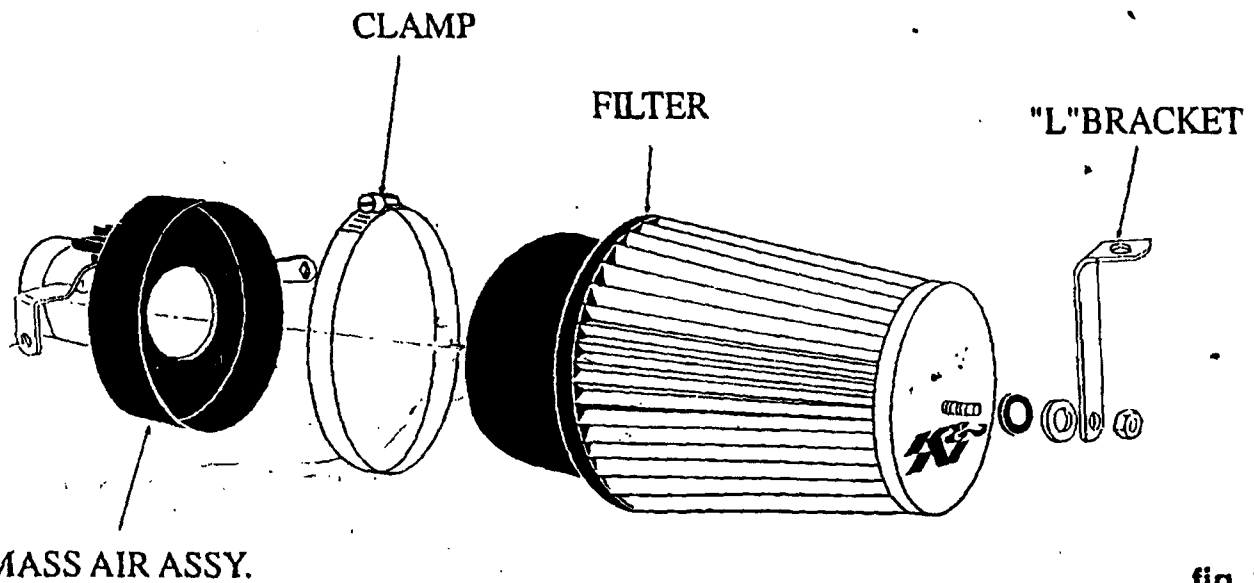

fig. 3
- 9) Place the complete assembly into the vehicle and attach the intake tube onto the mass-air sensor as shown in (fig. 3).